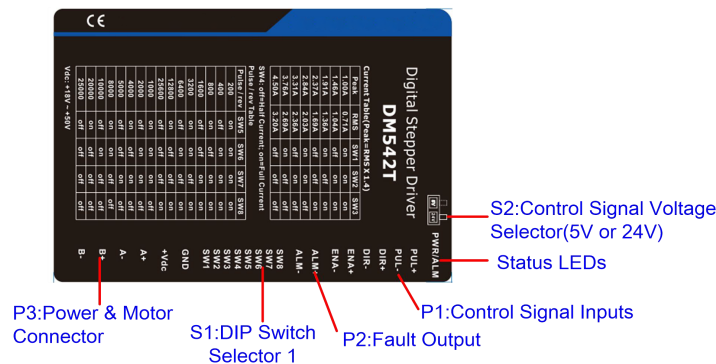

Figure 2 Connectors, DIP switches, and LED locations
PUL+	Pulse and Direction Connection: (1) Optically isolated, high level 4.5-5V or 24V, low voltage 0-0.5V (2) Maximum 200 KHz input frequency (3) The width of PUL signal is at least 2.5 μ s, duty cycle is recommended 50% (4) DIR signal requires advance PUL signal minimum 5 μ s in single pulse mode (5) The factory setting of control signal voltage is 24V, must need to set S2 (figure 2) if it is 5V
The DM542T(V4.0) can accept differential or single-ended control signals (pulse, direction, and enable) in open-collector or PNP connection through the P1 connector (figure 2). It is recommend to add an EMI line filter between the power supply and the drive to increase noise immunity for the drive in interference environments.
- (1) ENA signal is no-connected as default;
- (2) Control signal amplitude is 24 V as default. If it is 12 V, please set the S2 (Figure 2) selector switch to 5 V first, then connect 1KΩ resistor; If it is 5V, please set the S2 to 5V.
The second 1-bit selector is located on the top (S2 in figure 2), used to configure the voltage of control signals. For the safety of optically coupled, the factory setting is 24V, which no need to connect 2K resistors like the old drives, making it easier to use. When the voltage of the control signal is 5V, the S2 must be set to 5V, otherwise, the motor won't work.